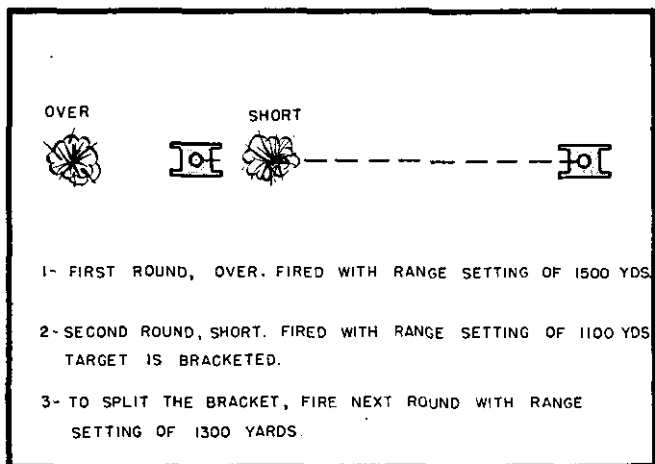

FIGURE 25.—Bracketing the target.
c. *Bracketing*.—(1) At ranges over 1,000 yards (or even less, when visibility is poor) bracket the target. An “over” and a “short” in range give a bracket (fig. 25). When you obtain a bracket, split it and continue to split it until you get effective fire. Inexperienced men usually underestimate the distance of a round from the target and make too small range changes (called “creeping”). Creeping wastes much time and ammunition. Avoid it by making bold range changes. At ranges 1,500 yards or less the first range change is 200 yards. At greater ranges, the first change should be at least 400 yards. Announce deflection changes in mils. In tanks with a graduated elevating handwheel (par. 61b), also